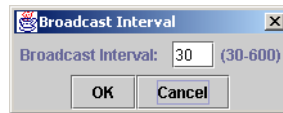

Figure 7-2. Broadcast Interval Dialog Box
2. On the **Host** menu, click **Set Interval**. The **Broadcast Interval** dialog box displays (see figure 7-2).